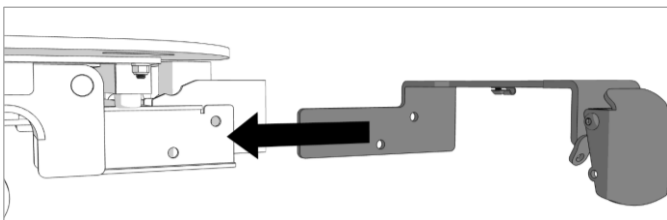

Figure 8.5
6. Slide the CPR Lever Bracket into the mounting bracket slot and line the holes up as shown in Figure 8.5. Ensure that the cables are not twisted or kinked.